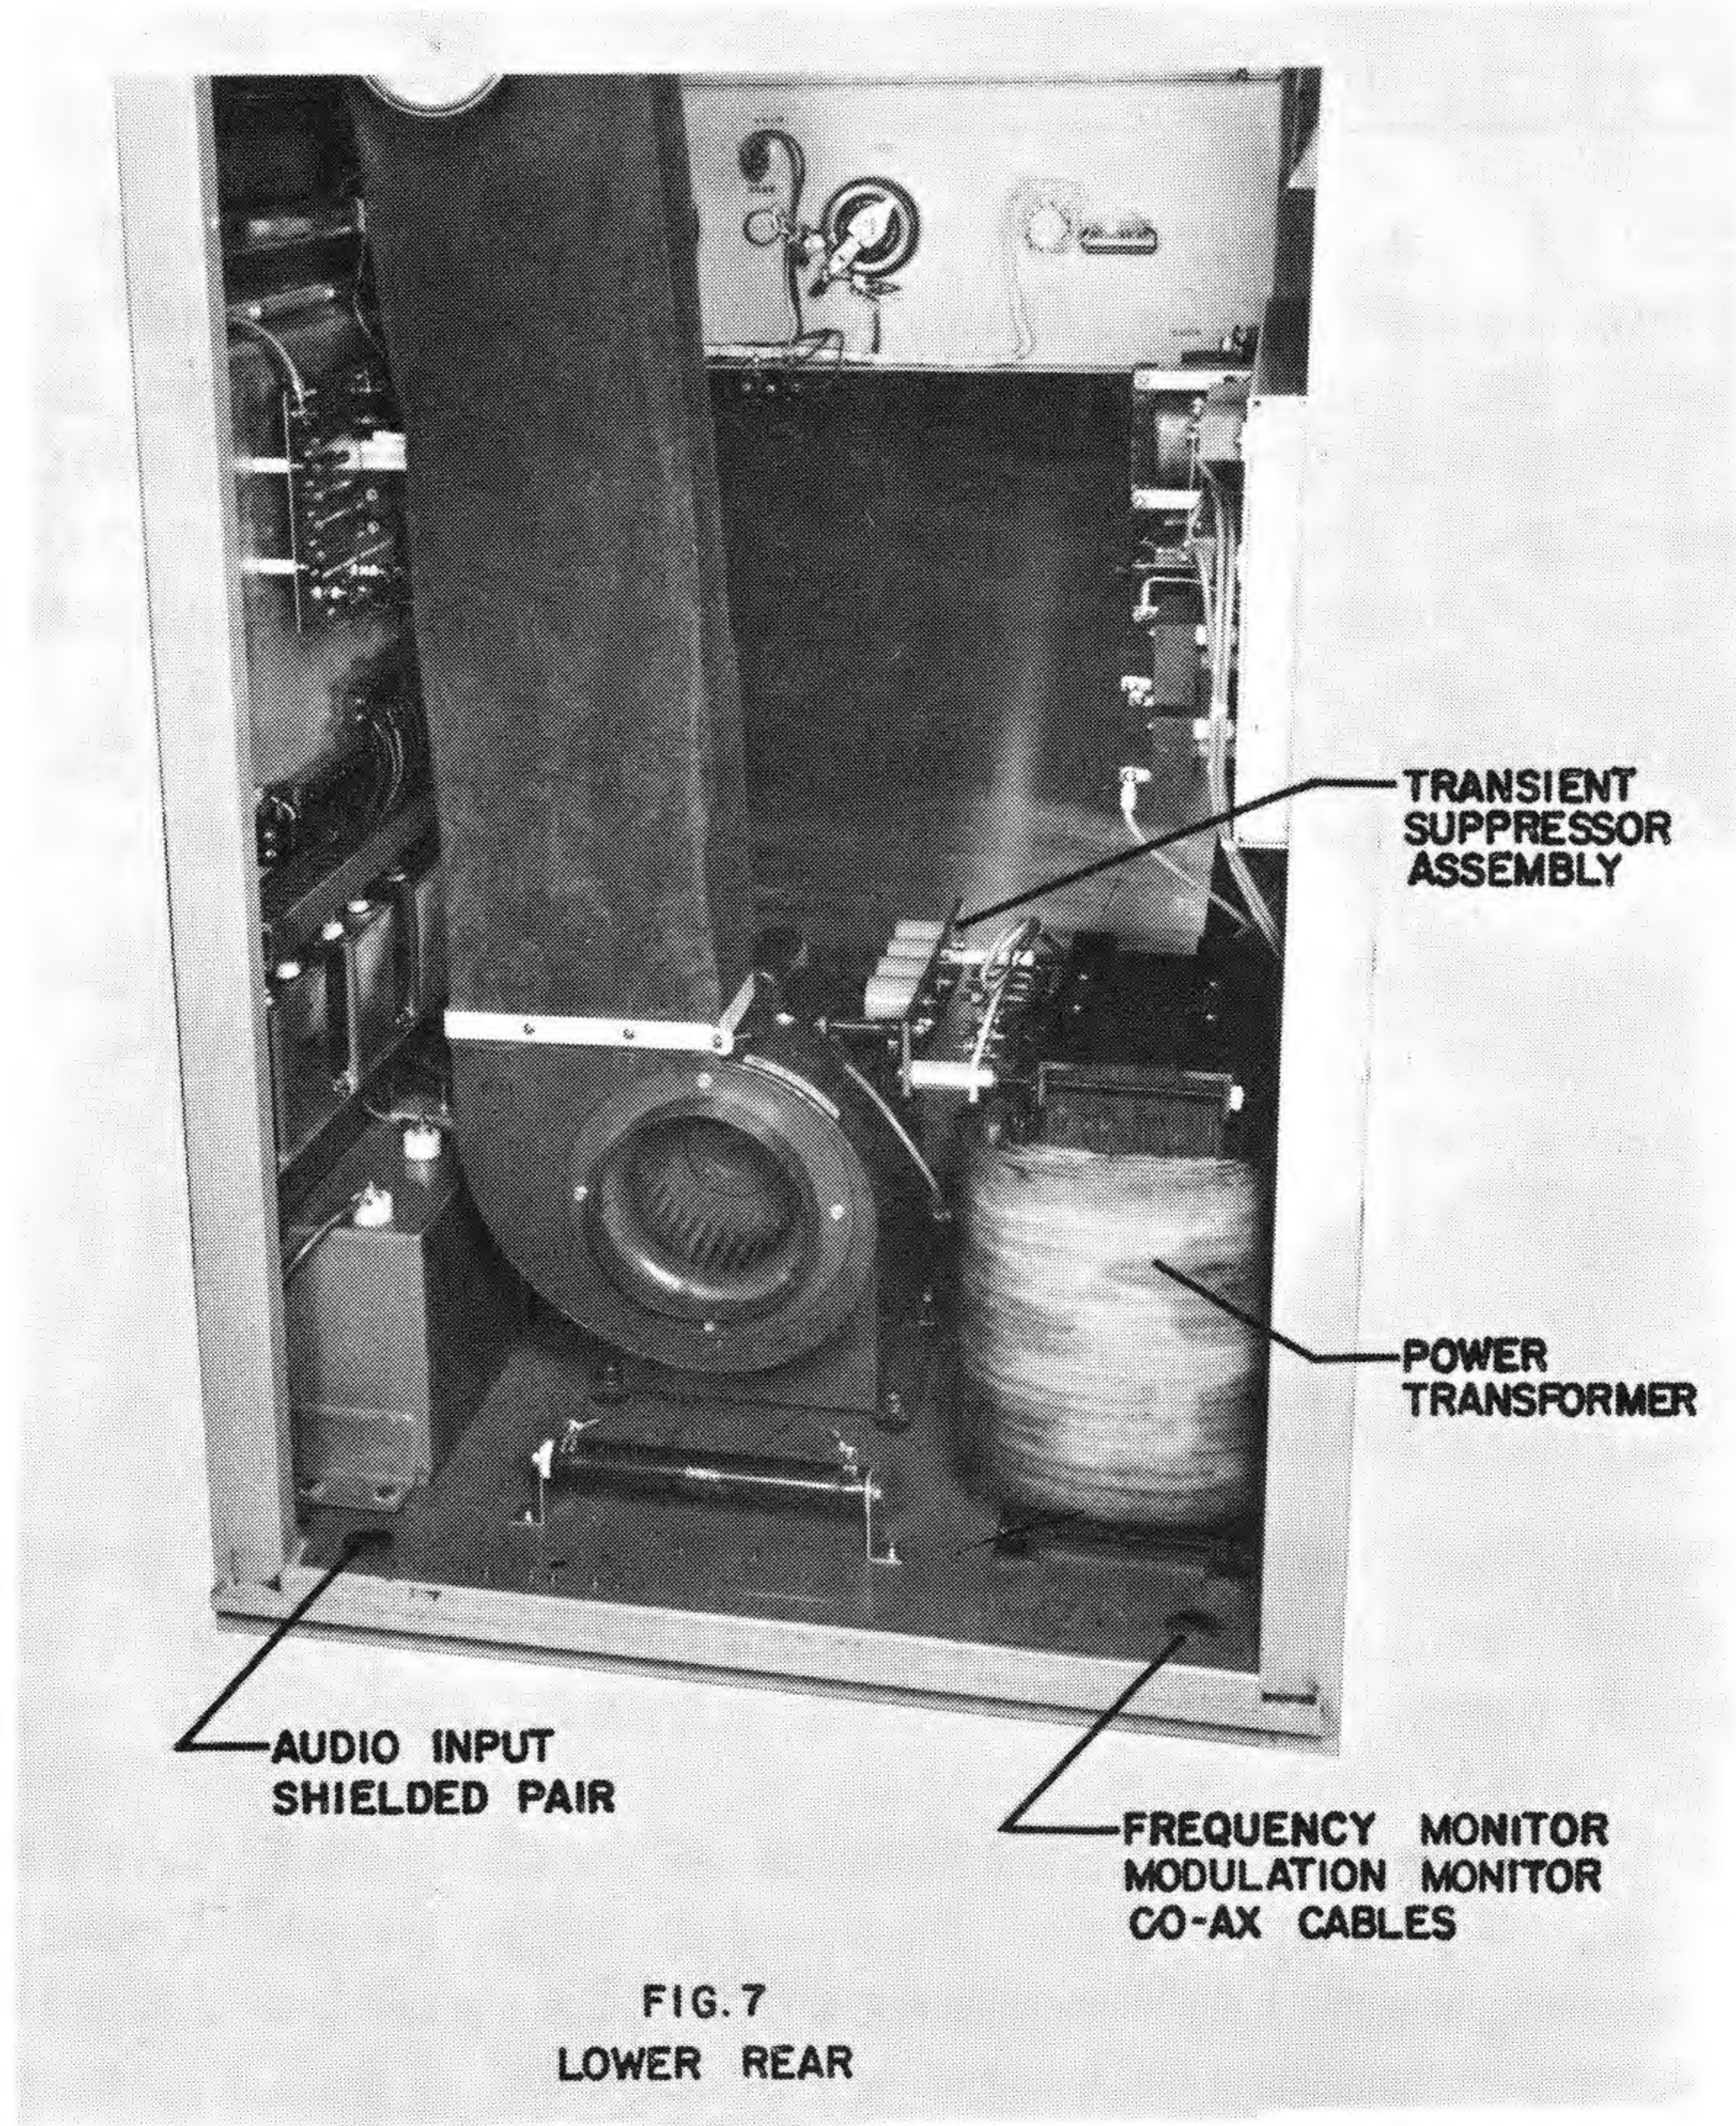

FIG. 7
9. Install the plate power transformer as shown in Fig. 7, Page 13. Bolt securely to the transmitter base with bolts provided. Make all connections to the transformer using the terminal wiring indicated on the cable leads as a guide. Install and connect the transient suppressor assembly on the high voltage power transformer as shown in Fig. 7.